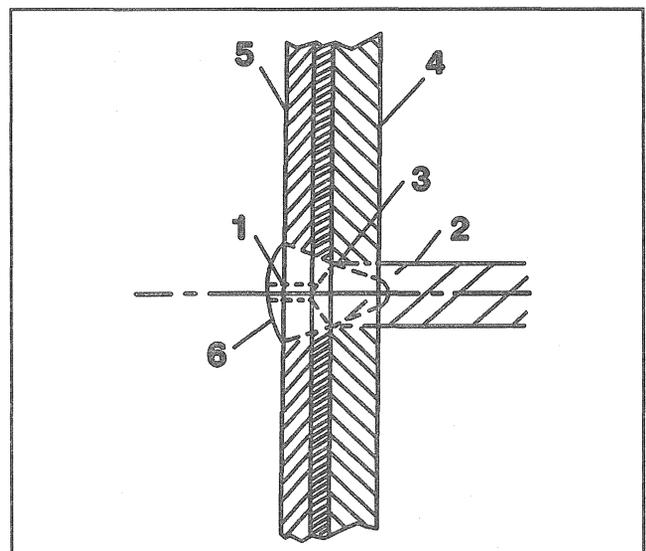

Figure 40—Drilling Out Spot Welds
- C. Drill a 3-mm (1/8 inch) pilot hole (1) through the welds (6) deep enough to penetrate the hinge base (3) only (Figure 40).
- D. Drill a 13 mm (1/2 inch) hole (2) through the hinge base (4) only using the smaller hole (1) as a pilot(Figure 40).